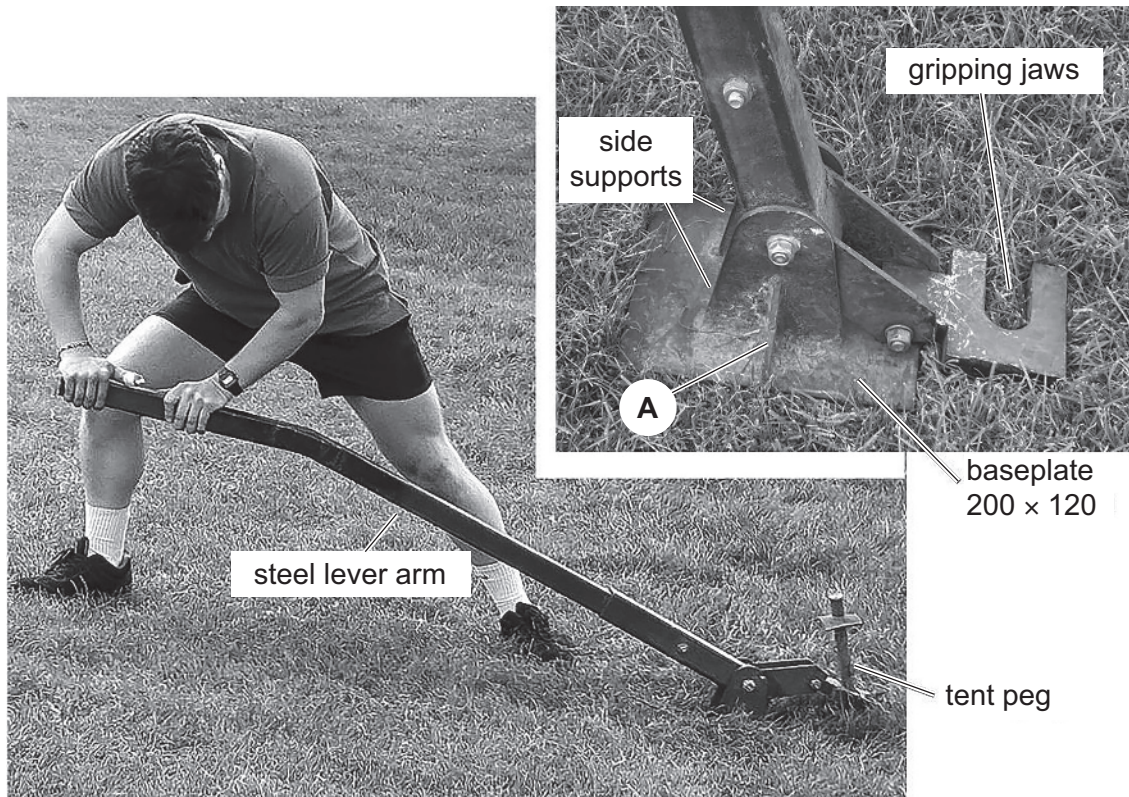

Fig. 10.1
- 10 Fig. 10.1 shows a peg puller for removing large tent pegs from the ground.
- (ii) Give the name of feature **A** on the baseplate in Fig. 10.1.